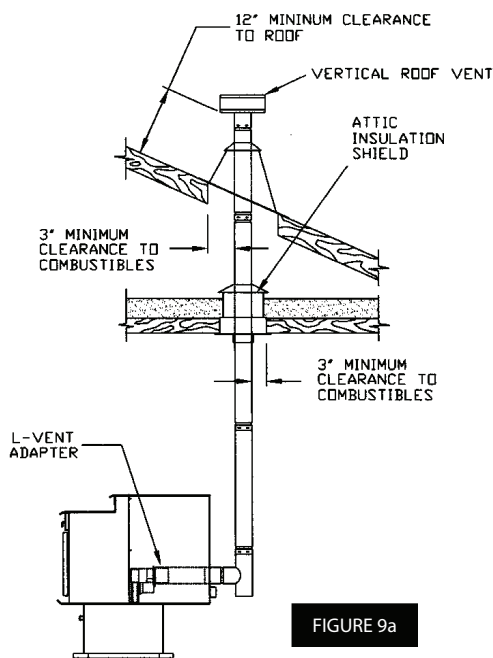
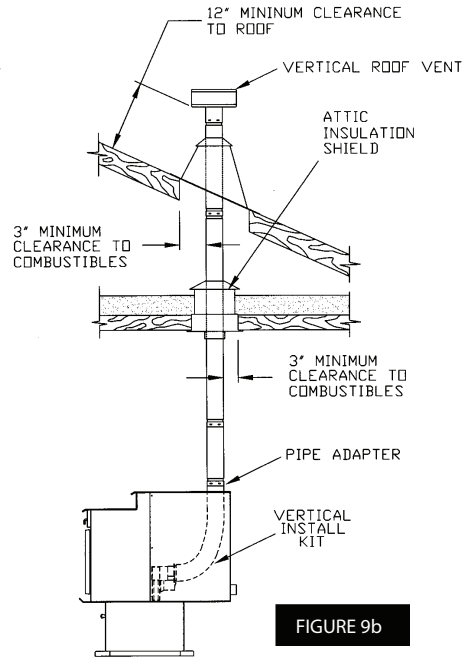

FIGURE 9a
FIGURE 9b
## B. VERTICALLY WITH NEW CHIMNEY SYSTEM (Refer to Figure 9a & 9b)
**OPTION:** To achieve a center vertical installation a 45° elbow and a clean-out tee can be used to offset the pipe from the exhaust outlet to the rear center of the stove (see figure 9a). You can also use the P24FS Vertical Install Kit (part # A-VIK) (see figure 9b).